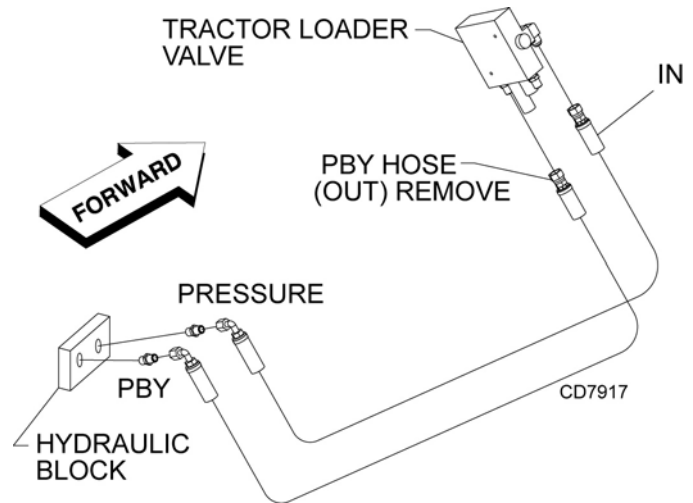

Figure 10. Remove Control Valve PBY Hose
1. Remove the PBY hose (inside hose) that is between the loader control valve and the hydraulic block on the right side of the tractor. See Figure 10.
2. Attach one end of hose (6) to the PBY port on the loader control valve.
3. Route hose(6) along underside of right tractor bracket and out the backside of tractor.
4. Attach connector (8) and male Quick Coupler to end of hose (6).
5. Attach hose (15) to the PBY port on the hydraulic block. Route hose (15) along underside of right tractor bracket and connect to bulkhead adapter (1) with female Quick Coupler (3) on bulkhead bracket (9).
6. Insert cable tie (16) and secure hose to tractor rail as needed. Cable tie is supplied in kit.